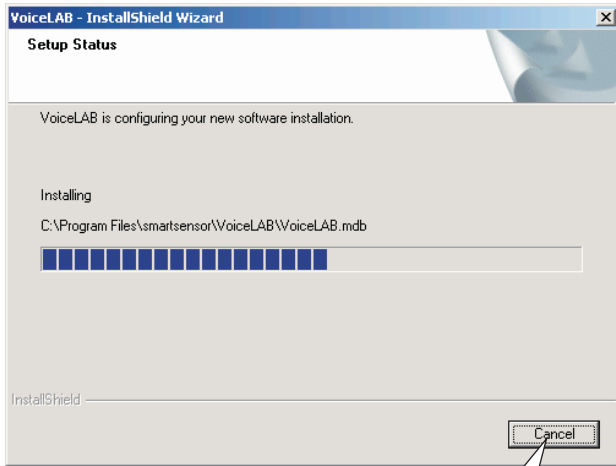

Figure 22
- In program installation process, if want stop it, please click the Cancel button, as shown in figure 22: